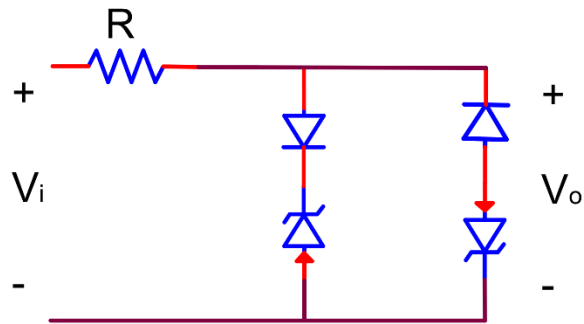

Figure 3.6
3. Refer to the circuit in Figure 3.6. Plot the transfer characteristic (output voltage amplitude versus the input voltage amplitude) and indicate the voltages at which the waveform at v_o is clipped. Assume piecewise linear models for all the diodes.